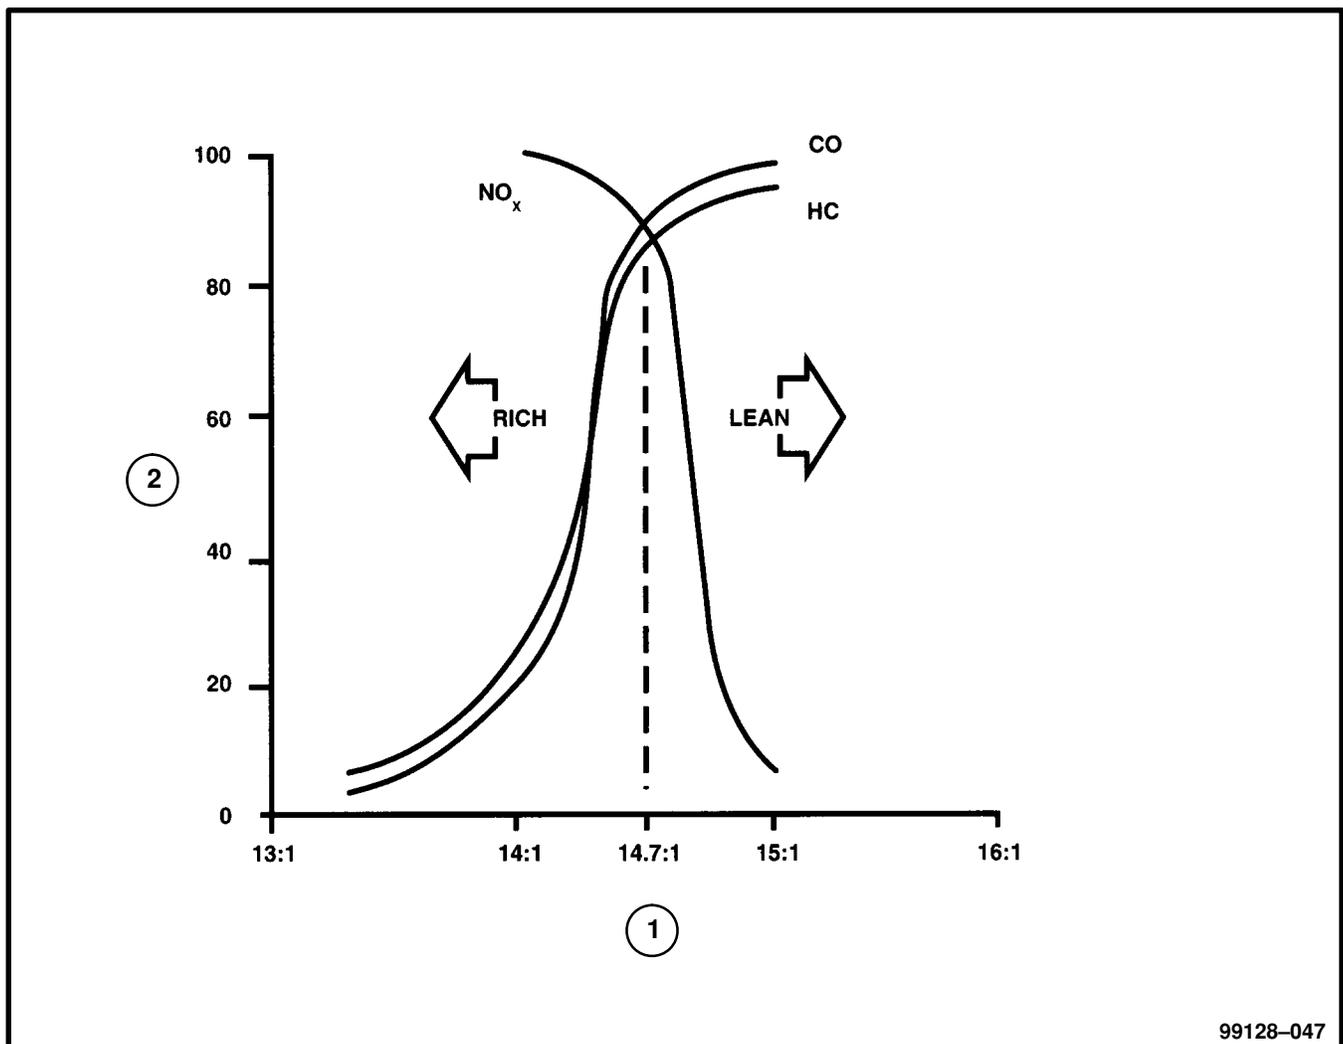

Figure 47 Conversion Efficiencies of a Three-Way Catalyst
The latest technology provides the use of a three-way catalytic converter on most automobiles. The three-way catalyst simultaneously converts three harmful exhaust emissions into harmless gases. Specifically, HC and CO emissions are converted into water (H2O) and carbon dioxide (CO2). Oxides of nitrogen (NOx) are converted into elemental nitrogen (N) and oxygen. The three-way catalyst is most efficient in converting HC, CO and NO, at the stoichiometric air/fuel ratio of 14.7:1 (fig. 47). If the mixture becomes leaner than 14.7:1 (extra oxygen), the ability to convert NOx drops. As the mixture becomes richer than 14.7:1 (less oxygen), the ability to convert HC and CO drops.